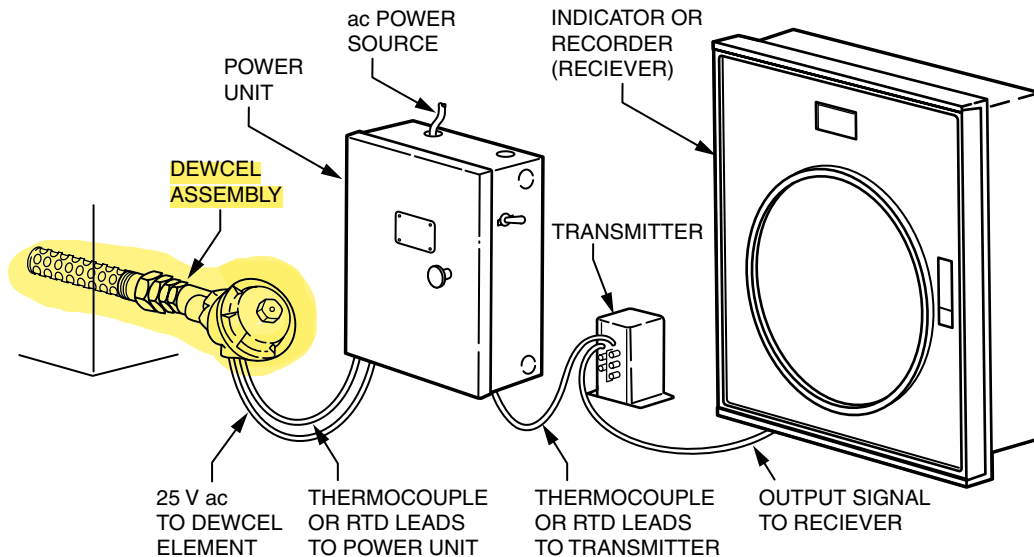

Figure 1. Typical DEWCEL System
The Foxboro dew point measuring system (see Figure 1) consists of a DEWCEL assembly, 25 V ac power source, transmitter, and an indicator or recorder.
5. Complete wiring to remaining components in system (refer to Figure 1).